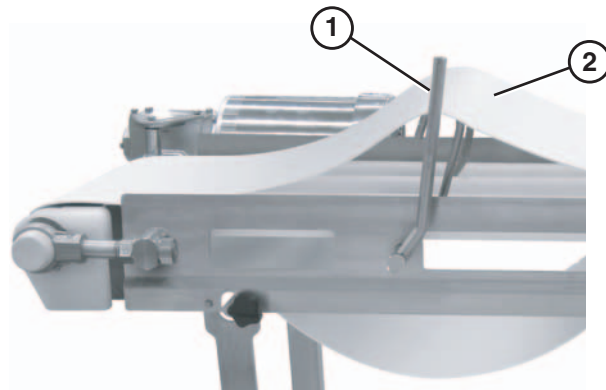

Figure 43
1. Remove the guides, if applicable, by removing the pull pins (Figure 43, item 1) that connect the guide (Figure 43, item 2) to the frame.
3. Use the lifter handle (Figure 43, item 1) to raise the belt (Figure 43, item 2).